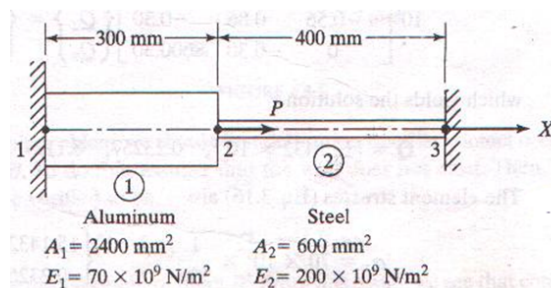

Figure 2
- (b) Consider the following Figure 2. An axial load $P=200 \text{ KN}$ is applied as shown i) Determine the nodal displacements. ii) Determine the stress in each material. iii) Determine the reaction forces. [7M]